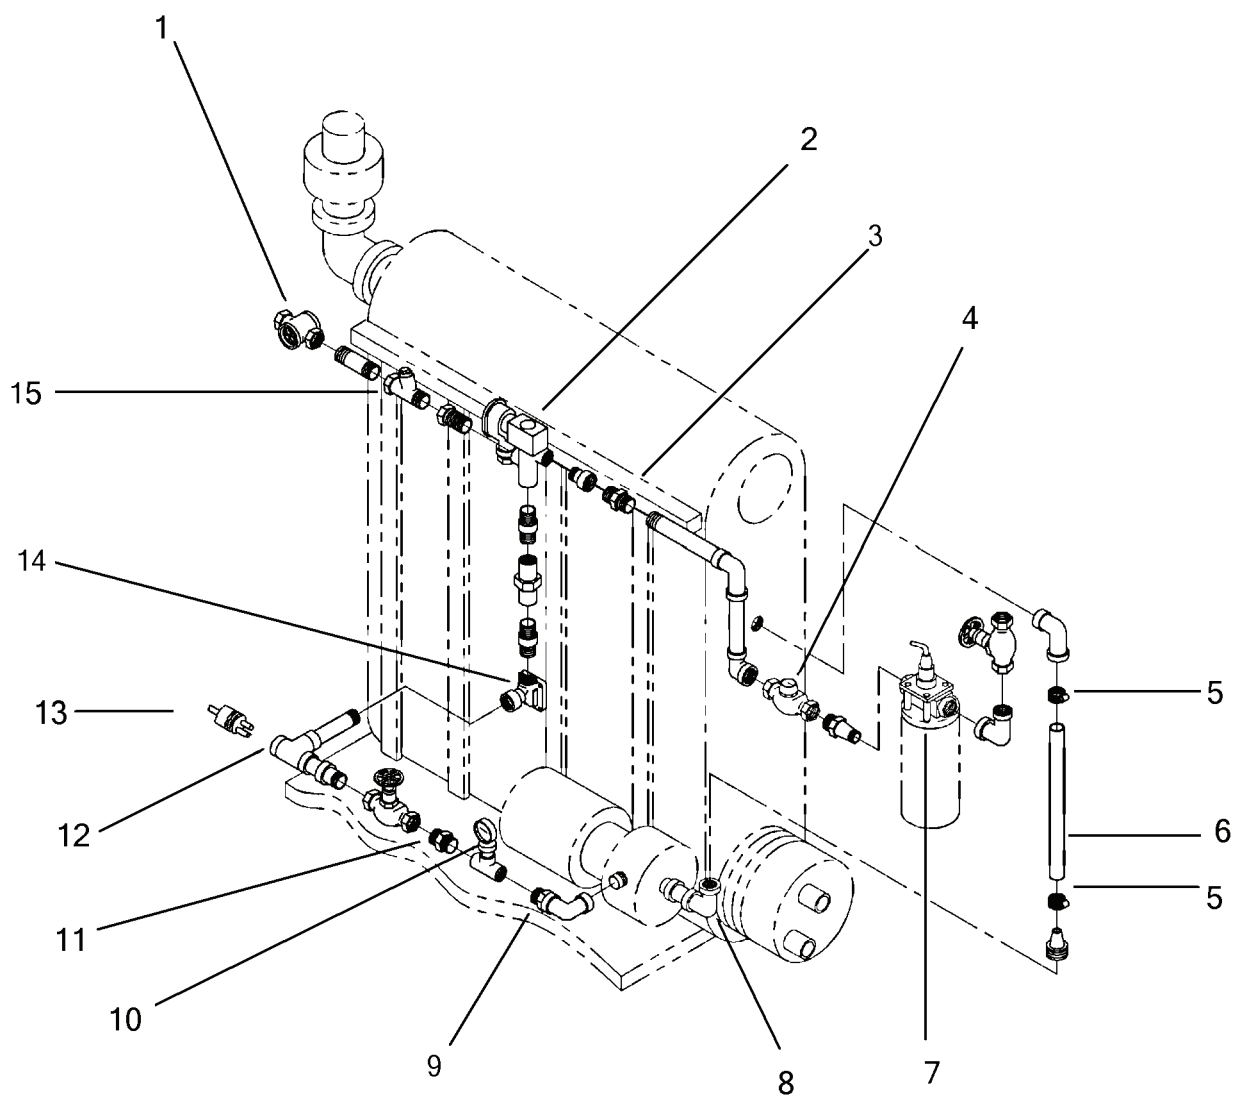
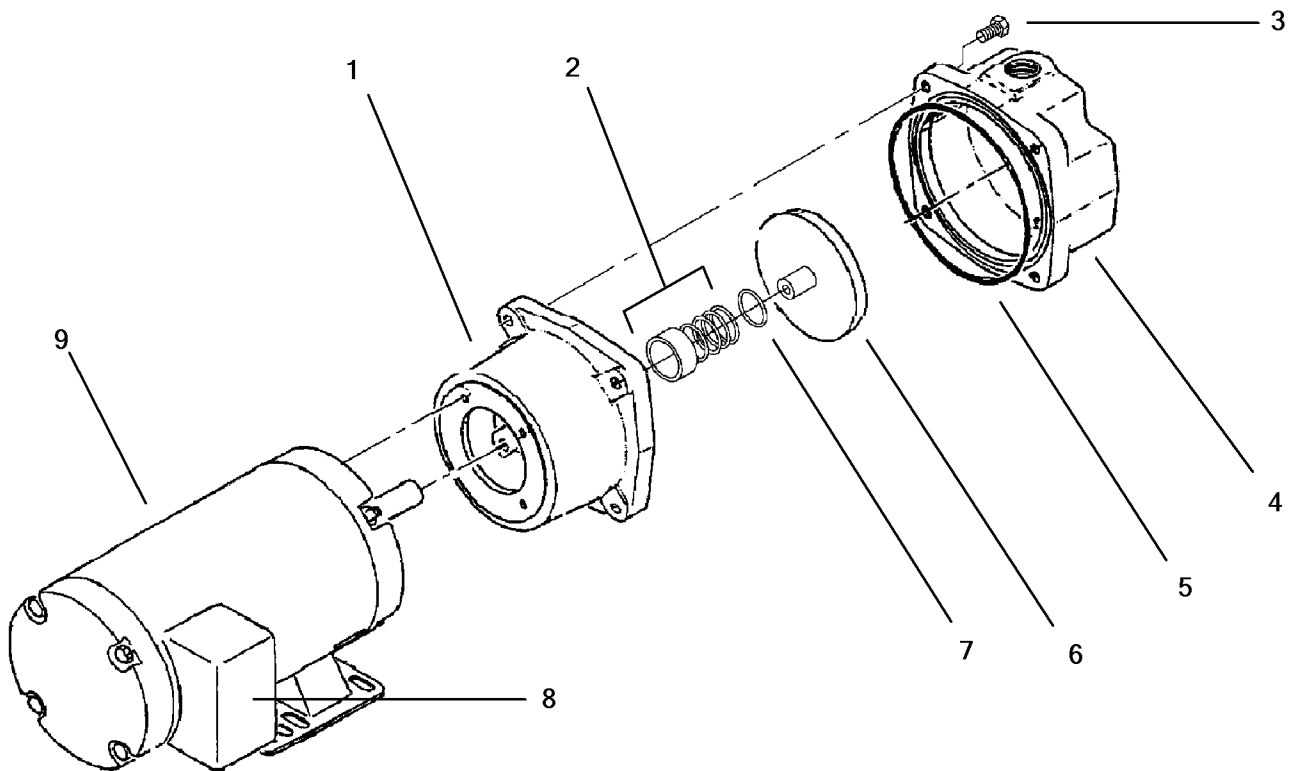

Figure 2-5. Distillate Piping Group.
Figure 2-6 Distillate Pump Assembly.
- a. To remove the distillate piping group (Figure 2-5), proceed as follows:
- (1) At power panel P103 turn off circuit breaker for salinity control system.
- (2) In the salinity control panel identify and label distillate dump valve wires and remove.
- (5) Place pail under distillate pump inlet (8, Figure 2-5) to catch distillate water.
- (6) Remove lower hose clamp (5), and drain hose and Evaporator reservoir.
- (7) Remove upper hose clamp (5) and flexible hose (6).
- (8) Place container under tee connector (12) to catch remaining distillate water.
- (9) Remove salinity cell (13) and allow draining of piping system.
- (10) Disconnect piping from the distillate dump sight glass (1).
- (11) Loosen the union fittings (3, 9 and 11) and remove the piping group.
- b. To remove the distillate thermometer (10), unscrew from tee connector.
- c. After the piping group is removed, the distillate dump sight glass (1), distillate dump valve (2), product water meter (4), Ultraviolet (UV) sterilizer (7), pressure regulating valve (14) and check valve (15) can be removed by disconnecting the appropriate piping.
- a. Repair is by replacement of the pressure regulating valve (14), check valve (15), distillate dump site glass (1) and damaged or worn associated piping (Figure 2-5).
- (1) Remove applicable associated pipe fittings as describe in removal procedure (a) and TB-55-1900-204-24 (Welding on Watercraft).
- (2) Install new or repaired pipe or pipe fitting as described in replacement procedure b.
- g. To repair the flexible hose (6):
- (1) Remove hose as described in removal procedure a.
- (2) If the hose ends are cracked or split, cut the damaged section off with a knife.
- (3) Install repaired or new hose as described in replacement procedure b.
- a. Replace the distillate dump sight glass (1), distillate dump valve (2), product water meter (4), Ultraviolet (UV) Sterilizer (7), check valve (15) and pressure regulating valve (14), by connecting to the appropriate piping.
- b. To replace the distillate piping group (Figure 2-5), proceed as follows:
- (1) Install the piping group in position; tighten the union fittings (3, 9 and 11).
- (2) Reconnect the piping to the distillate dump sight glass (1).
- (3) Reconnect the salinity cell (13) to the piping system.
- (4) Replace flexible hose (6) with hose clamps (5).
- (5) In the salinity control panel reconnect distillate dump valve wires.
- c. Replace the distillate thermometer (10, Figure 2-5), screw into tee connector.
## 2-13. Distillate Pump Assembly. (Figures 2-5 and 2-6)
To remove the distillate pump assembly (Figure 2-6), proceed as follows:
- (1) Disconnect lower hose clamp (5, Figure 2-5) from flexible hose at the inlet.